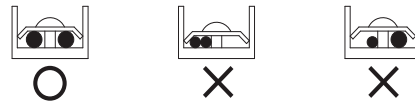

Fig. 7
- (b) When connecting wire of the same diameter, make the connection as shown in the Fig. 7.